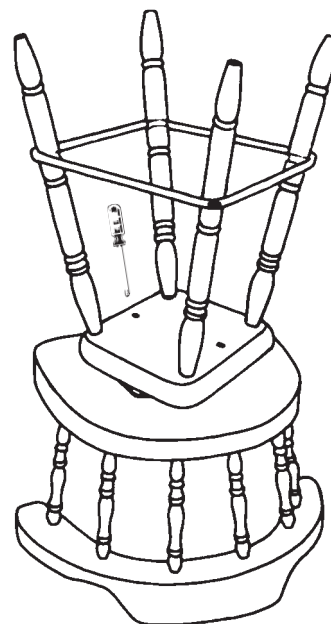

FIG. 10
- 10) Cover your work surface with a cloth or piece of cardboard to protect the finished seat. Place the seat upside down on the work surface. Be sure the front of the swivel is placed towards the front of the seat. Place the leg assembly upside down on the bottom of the seat and line up the holes in the swivel with the pilot holes in the seat. Screw the swivel into place through the access holes in the disc with the #12 x 1" Pan Head Screws. Turn the leg assembly until the other two sets of holes line up with the access holes in the disc and finish screwing the swivel down with the #12 x 1" Pan Head Screws. SEE FIGURE 10.